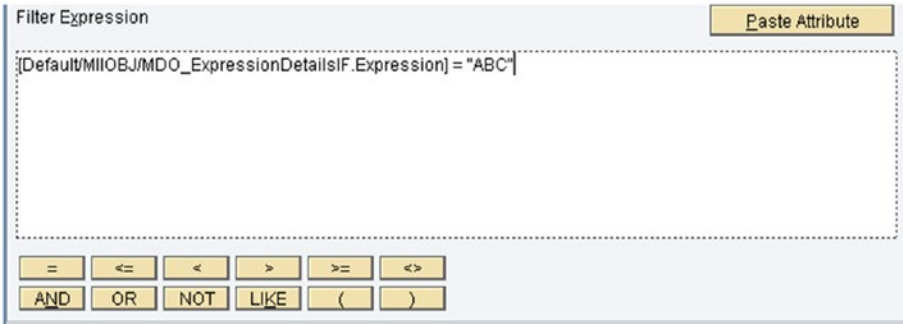

Figure 7-15. Filter expression in a joined MDO
2. Further, you can filter the attributes selected for the join output, as shown in Figure 7-15.